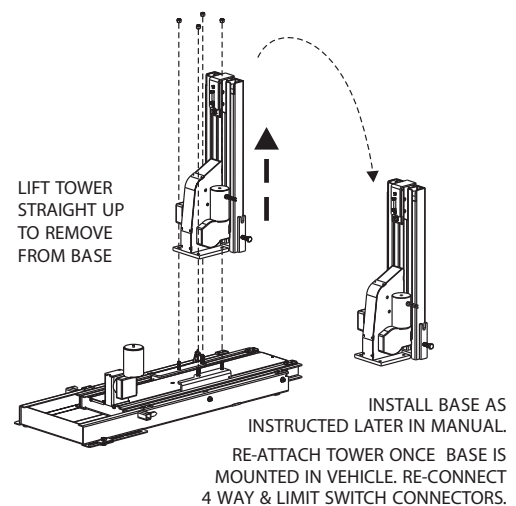

Figure 11-3
- Remove connections at limit switch [Figure 11-3] and remove power connections at 4-way plug. [Figure 11-1]
- Lift tower straight up to remove from base. [Figure 11-3]